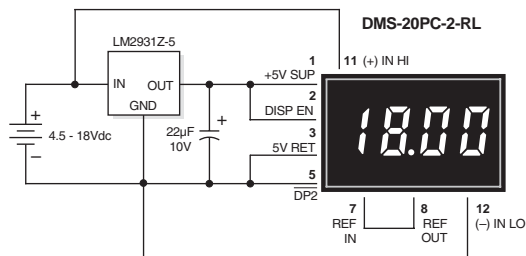

Figure 8. 4.5V-18V Power Supply Monitor
- 6. Power Supply Monitoring:** One of the most common digital panel meter applications involves monitoring the output voltage of the system power supply — often this supply also powers the meter itself. The low-power, red LED DMS-20PC-2-RL can be configured to allow power supply monitoring over the range of 4.5-18Vdc. The circuit in Figure 8 uses a low-drop-out, three-terminal regulator (LM-2931Z-5, available from National Semiconductor) to provide regulated 5V-power to the meter.